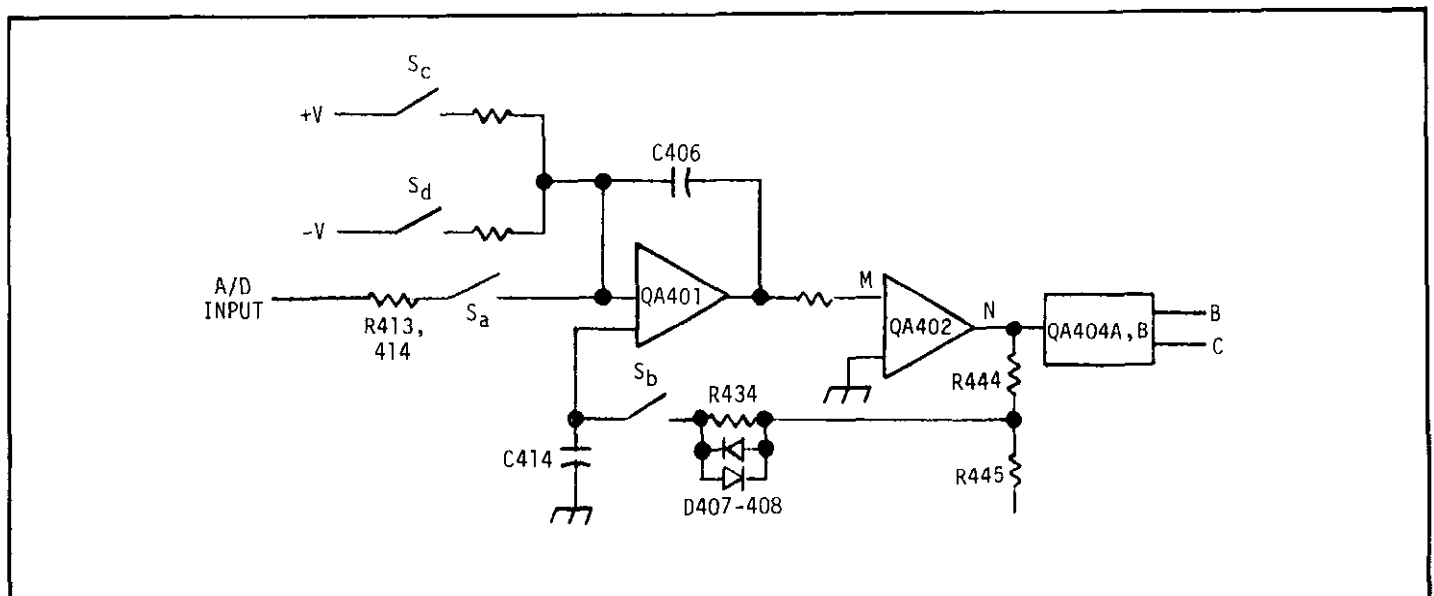

FIGURE 12. Integrator Simplified Diagram.
1. Zero Period. During this period the integrator amplifier is zeroed by a feedback rezeroing circuit as shown in Figure 12. Switches S_a, S_b, S_d are open to prevent integrator charging.
1. Integrator Circuit. The operation of the Integrator is controlled by the positions of switches S_a, S_b, S_c, and S_d (as shown in Figure 12). Switch S_a is Q401. Switch S_b is transistor Q411. Transistors Q404, Q405, Q408, Q409, and Q410 are control circuits arranged to control the proper FET switches depending on the signals at pins 12 and 13. The integrator amplifier consists of transistors Q402 and Q403 and integrated circuit QA401. The feedback capacitor is C406. Switches S_c and S_d control the current for 9-volt zener diodes D401 and D402. Resistors R403, R404, R405, R409, R410, and R411 are full-scale calibration resistors. Potentiometers R402 and R408 are internal screwdriver calibration adjustments.